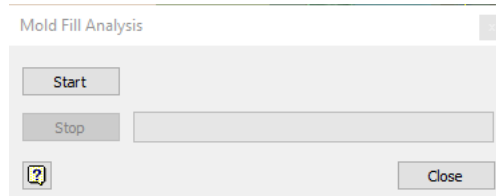

Figure 19-97 The Mold Fill Analysis dialog box
1. Choose the **Mold Fill Analysis** tool from the **Mold Simulation** panel in the **Mold Layout** tab of the **Ribbon**; the **Mold Fill Analysis** dialog box is displayed, as shown Figure 19-97.